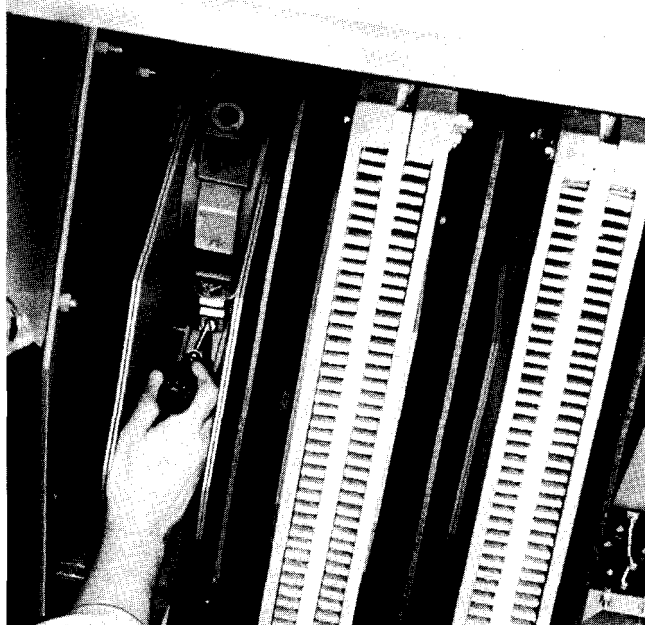

Fig. 9. Method of removing movable contact.
6. See Fig. 9. To remove the movable contact, block the magnet armature closed, thus exposing the movable contact bolt. Using a 1/2-inch socket wrench or screwdriver, remove the bolt and contact. Replace the contact, being certain that the shunt is between the flatwasher and the movable contact. The movable contact support is tapped to receive the bolt.